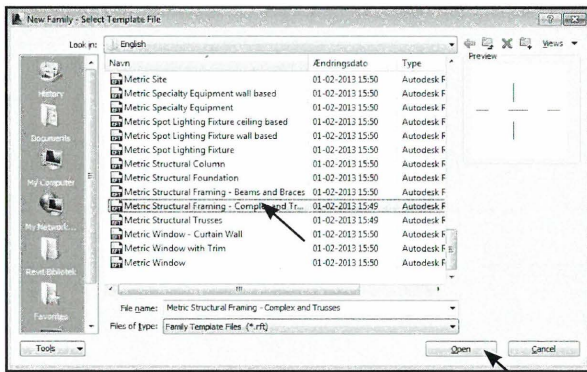

Fig. 09.02. Metric Structural Framing - Complex and Trusses
- Vælg *Metric Structural Framing - Complex and Trusses* - *Open* (Fig. 09.02).